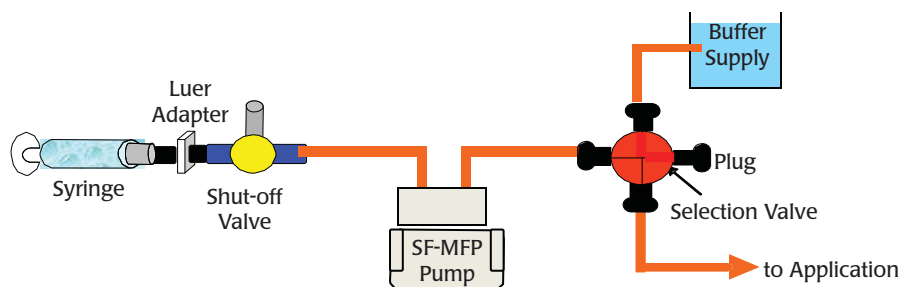

Fig. 7—Configuration of the SF-PF pump with connections accessory kit.
10. Adjust your valves so that the SF-PF pump is connected to Your Fluid Supply Container (Fig. 7).